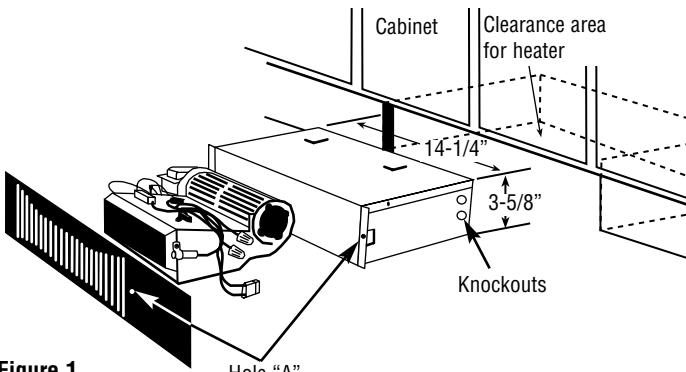

Figure 1
1. Cut a 14 1/4" x 3 5/8" (361.9 mm x 92.1 mm) opening at desired location as shown in Fig. 1. Keep clearance area free of obstructions.
3. Determine which knockout in enclosure will be used for field wiring and remove (see Figure 1). Install strain relief (field supplied).
7. Using the holes in the flanges of the enclosure for a template, secure both the front grille and the heater by drilling two .093" (3/32") (2.3 mm) diameter holes into the cabinet board and installing two No. 6 x 3/4" (No. 6 x 19 mm) screws (supplied) through hole "A" (see Figure 1).